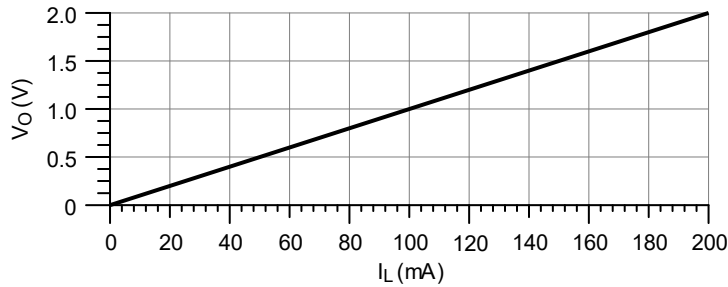

Figure 5. High-Side Current Sensing at High-Voltage
**Note:** For the previous component values, both circuits have a sensitivity of  $V_O/I_L = 1V/100mA$  (Figure 5).